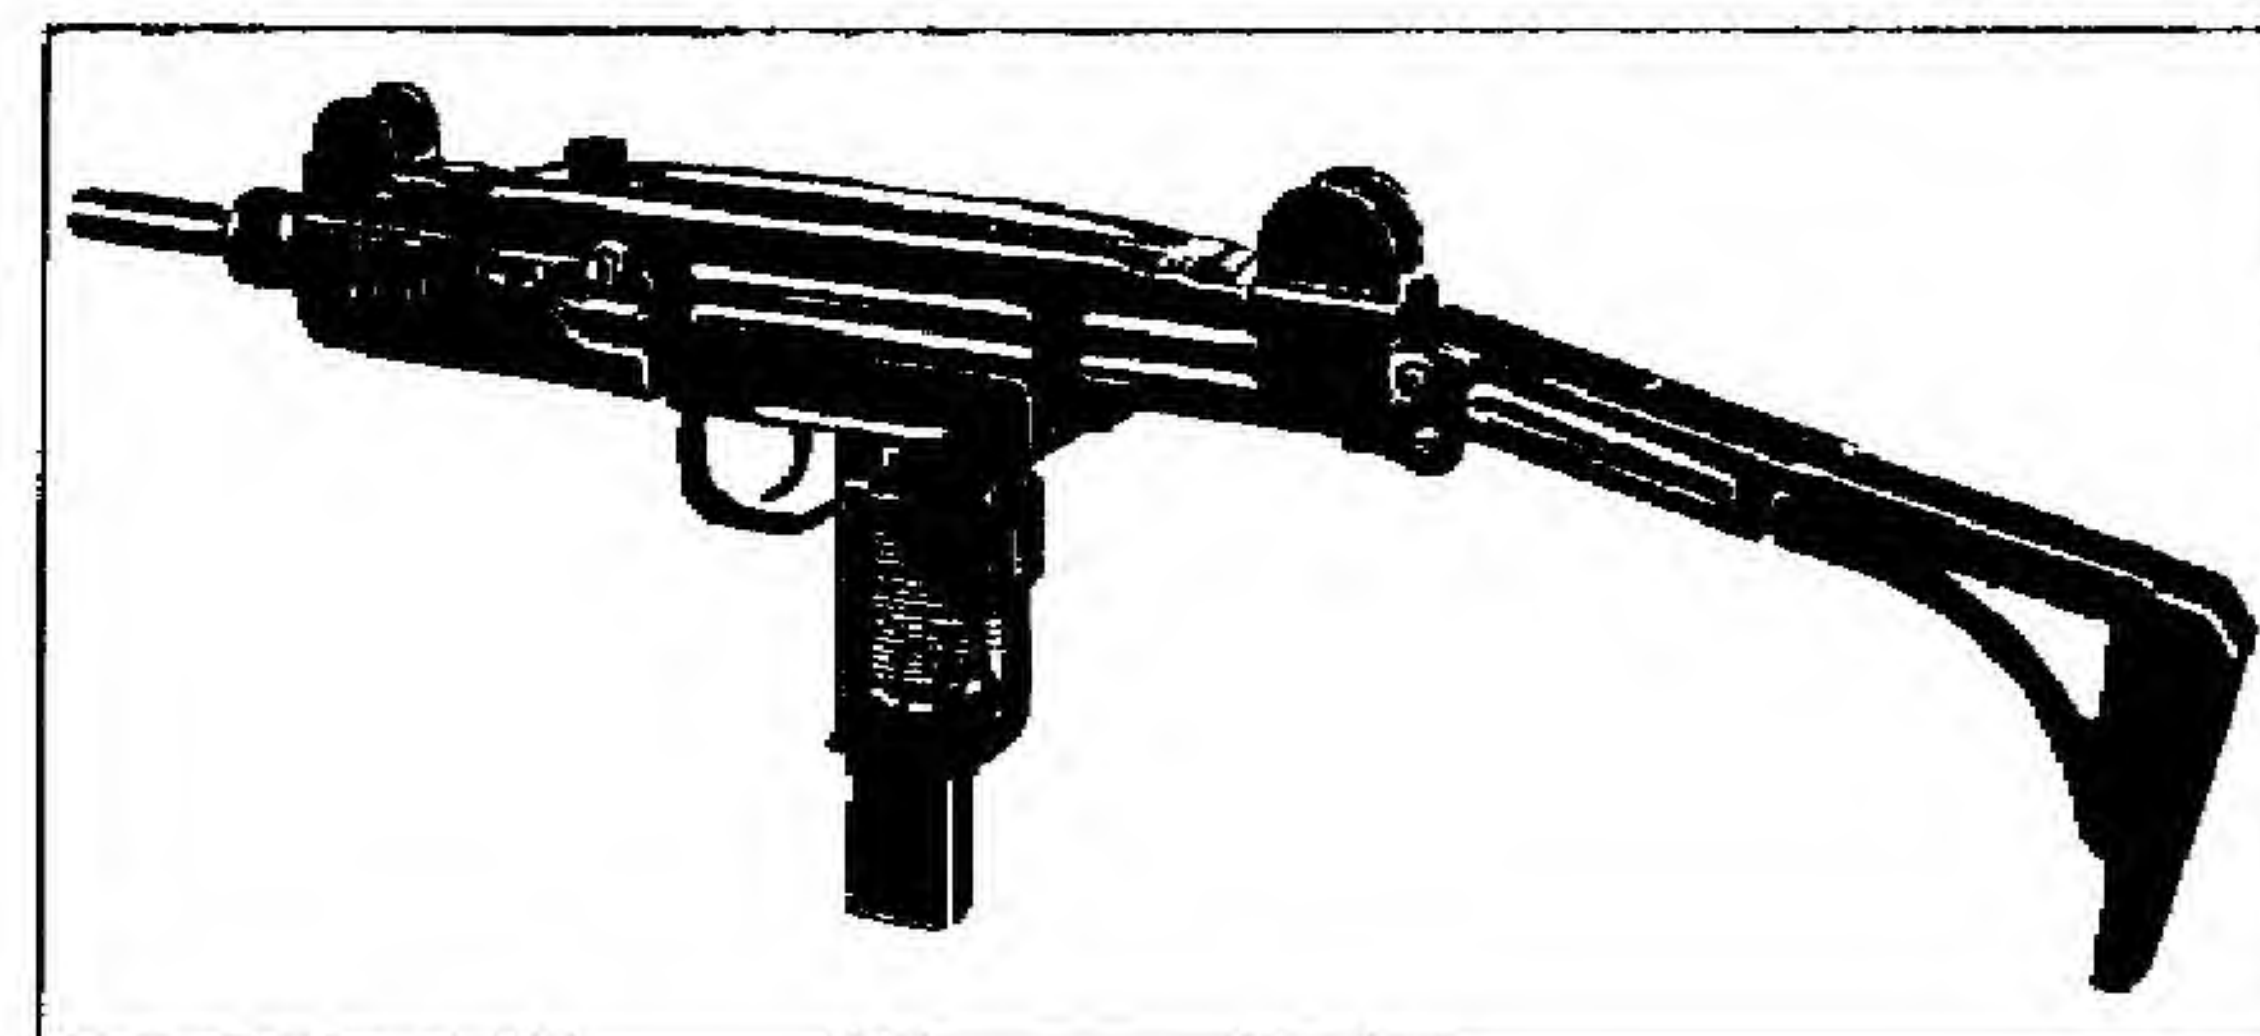

Fig. 1.
10. **Butt.** — The F. N. submachine gun is usually fitted with a metal butt, which can be extended, or folded into an inoperative position, as required (see fig. 1 & 2).